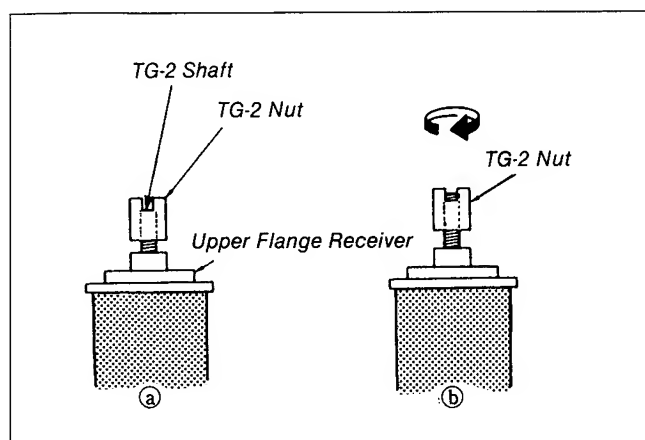

Fig. 8-59.
- 1) Screw in until the slit of the TG-2 nut comes as high as the top of the TG-2 shaft. (Fig. 8-59 (a))
- 2) Turn the TG-2 nut 1/2 times in the clockwise direction. (Fig. 8-59 (b))